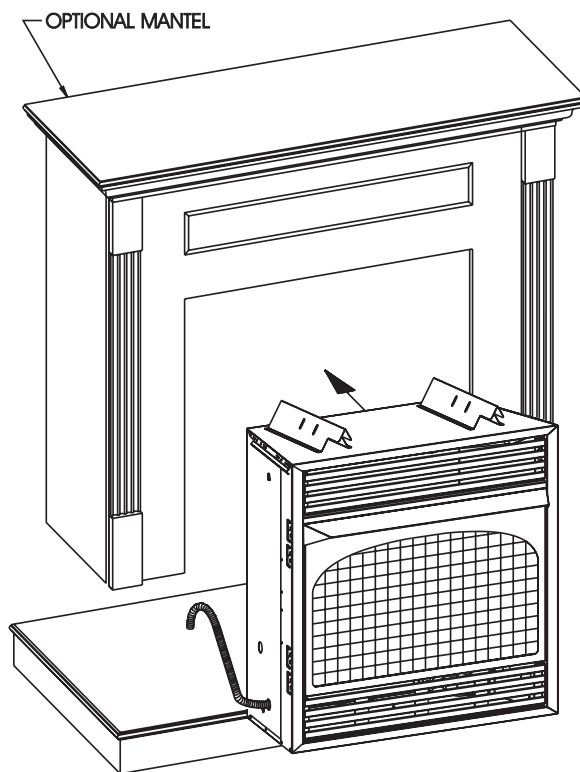

Figure 14
10. Position flange on inside mounting flange facing the front of the heater with the notches on the inside mounting flange facing the rear of the heater. You can now adjust inside mounting flange on outer casing top to back side of mantel. Install (4) screws when correctly located.
11. Center cabinet mantel on hearth base (see Figure 14). Make sure mantel is flush against wall.
Installing Cabinet in Mantel (Figure 14)